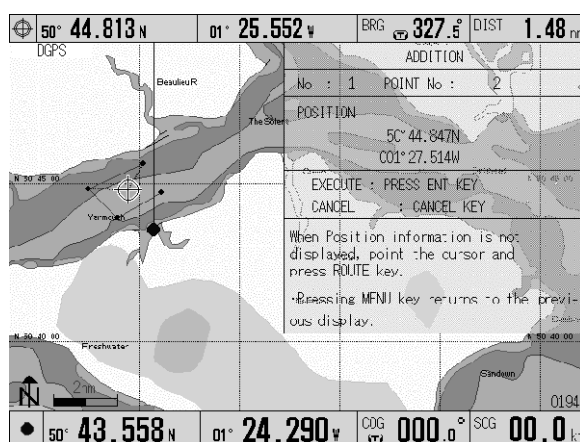

Figure 6.42b ADDITION menu (2)
- (9) Press the ENT key to fix the position of the node. (Figure 6.42b)
- (10) To return to the normal display, press the MENU key 4 times.